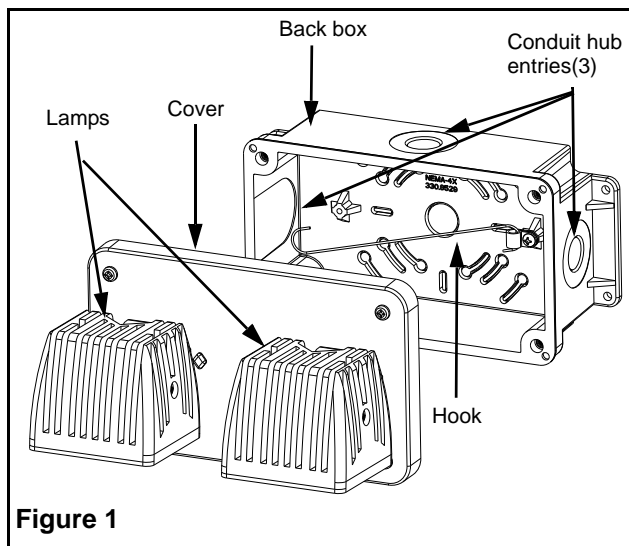

Figure 1
1. Remove the cover from the back box (See figure 1).